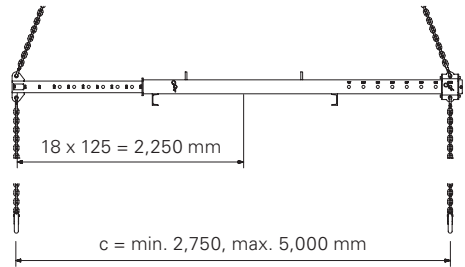

Fig. 11
- The slider (5) is positioned in the outermost positioning hole of the outer tube (1)! (Fig. 11)